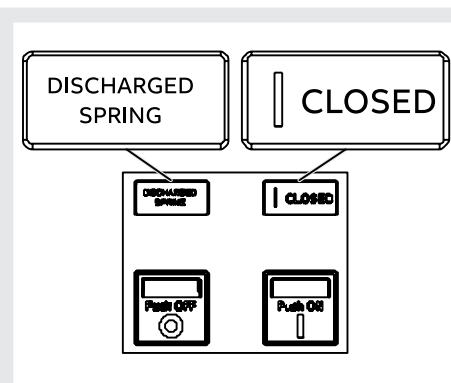

Figure 37
3. Circuit-breaker closed with springs discharged (see Figure 37).